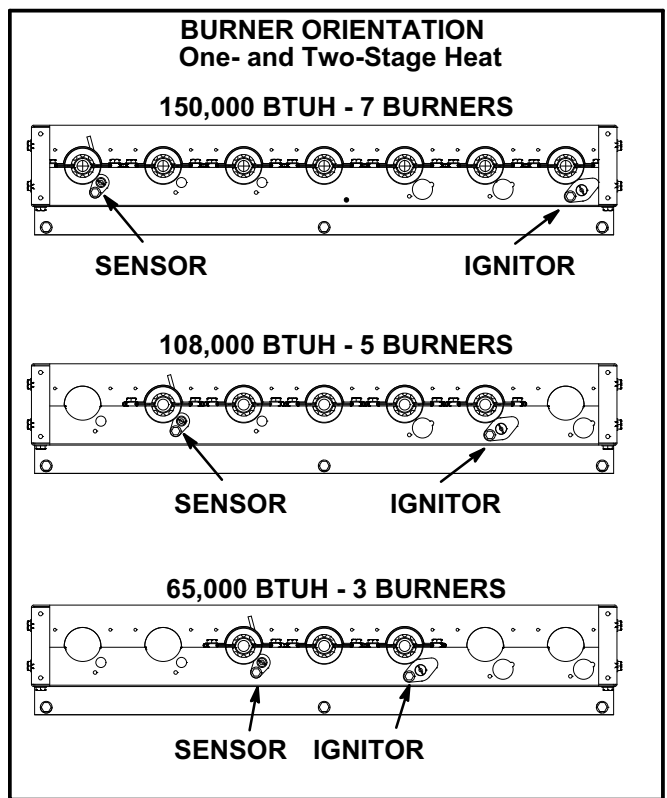

FIGURE 36
- 6- Replace burners and screws securing burner. See figure 36 or 37.